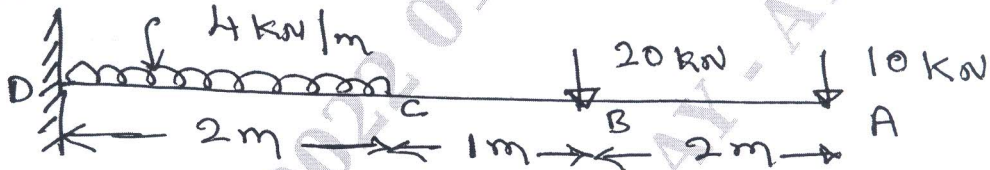

Fig Q5(b)
- b. Draw the shear force and bending moment diagrams for the cantilever beam shown in Fig Q5(b).